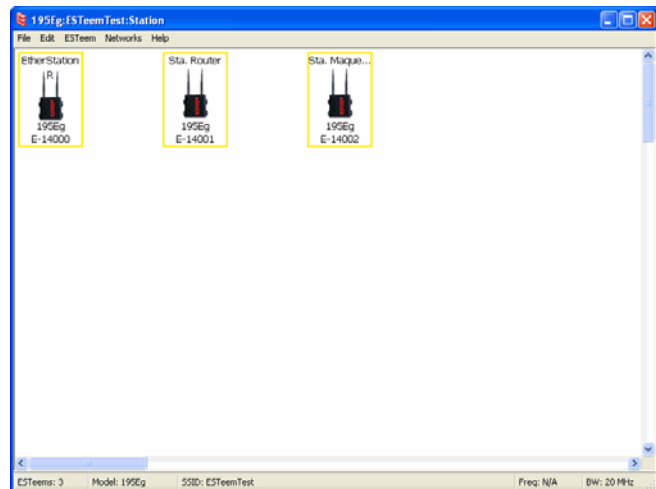

Figure 24: Station Mode Example Modems
2. Add the three mobile client modems to the ENC Utility configuration page as instructed above and set the Modem ID to match the three modes of operation. Your configuration will appear as in Figure 24.
Technical Tip: The ESTeem 195E's in Mobile Client modes do not have a specific frequency of operation as can be seen in Figure 24.